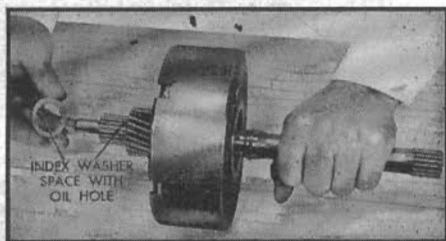

Fig. 65 Alignment of thrust washer oil slot with shaft oil hole. 1950-59
14. Install input shaft to clutch unit. Install thrust washer previously selected on reverse sun gear splines of input shaft, aligning missing spline opening with oil hole in reverse sun gear splines of input shaft, Fig. 65.